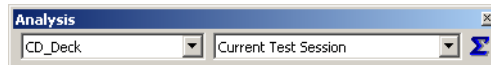

Figure 160: Validator Analysis toolbar (dynamic analysis)
- 3 On the Analysis toolbar, select the System on which to perform the analysis. See *Figure 160*, page 198 where the selected System is CD_Deck.